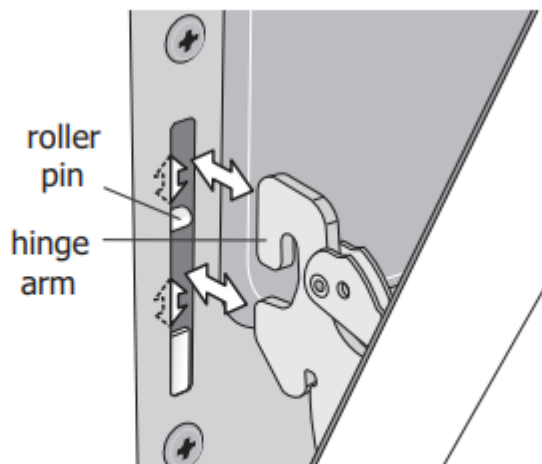

Figure 10: Remove door position
2. Hold the oven door at the same angle as the removal position. Carefully insert the hinge levers into the oven frame until you feel the hinge levers are seated into the hinge notches. The hinge arms must be fully seated into the hinge notches before the oven door can be fully opened. (Figure 10).